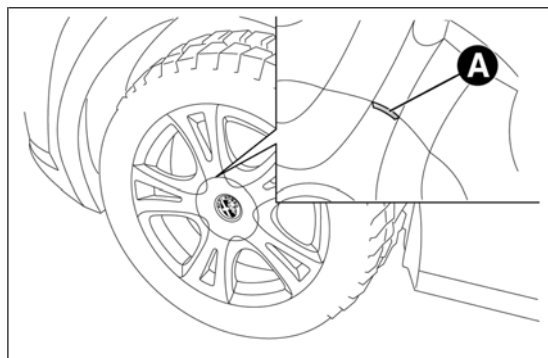

fig. 116
- ☐ **for versions with alloy rims:** shake the car to facilitate detachment of the rim from the wheel hub. Some versions may be fitted with alloy wheels with a hub cap (fig. 116). To remove the hub cap, insert the screwdriver into housings A in order to access the fixing bolts. Replace the wheel as described previously;